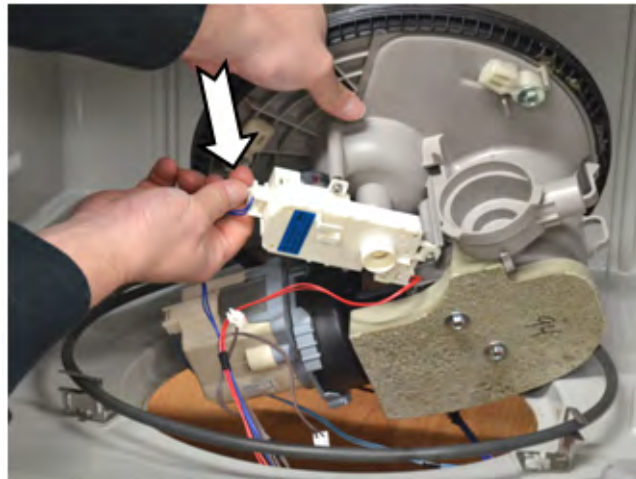

Figure 16
10. Unplug the diverter motor and washer motor wire harnesses, see figure 16 and 17.